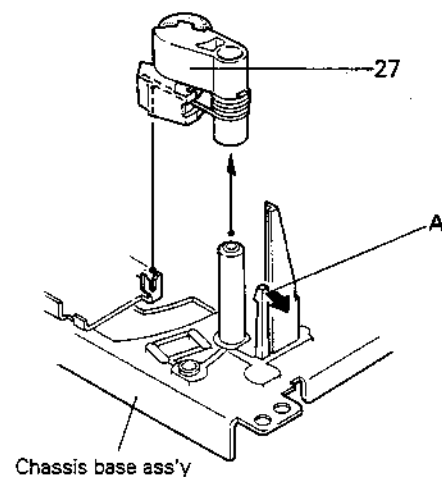
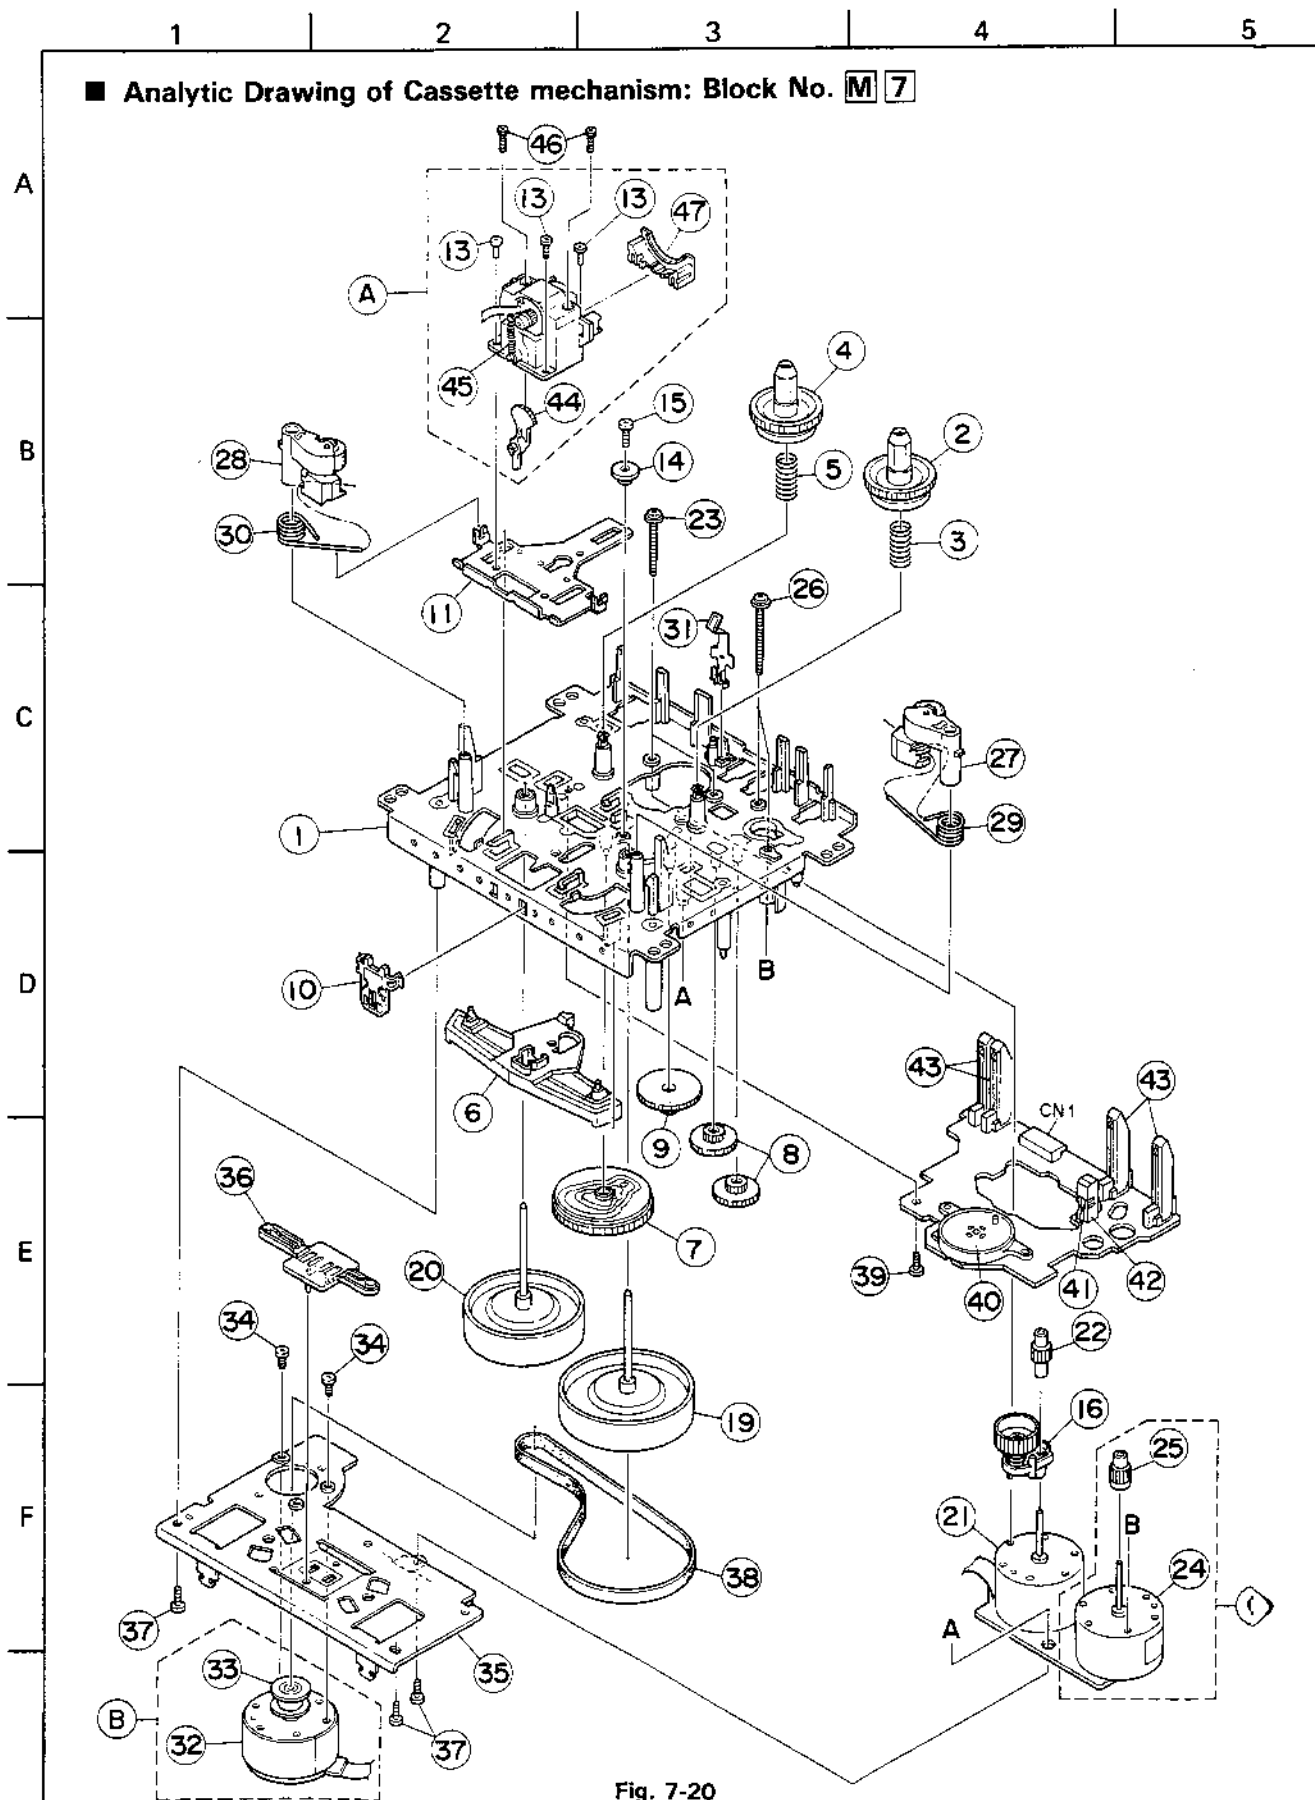

Fig. 7-22
Fig. 7-20
■ Head mount assembly (A) (Fig. 7-20, 7-21)
■ Pinch roller assembly (Fig. 7-22)
1. Expand the pawl (A) retaining the pinch roller assembly (27) on the right side in the direction of the arrow while pulling out the pinch roller assembly upwards.
2. In the same manner as above, expand the pawl retaining the pinch roller assembly (28) on the left side to remove the left pinch roller assembly. (Fig. 7-20, too)